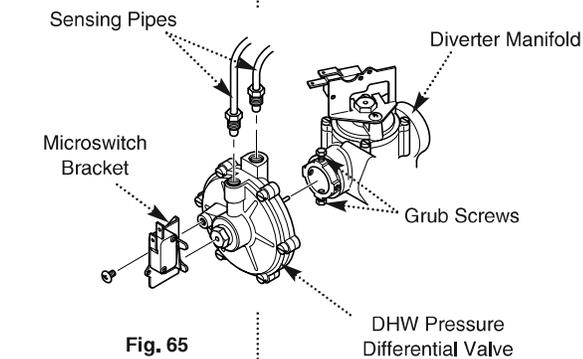

Fig. 65
### 12.22 Diverter Valve Assembly (Figs. 65 & 66)
2. Undo the screw securing the microswitch bracket to the valve (Fig. 65).